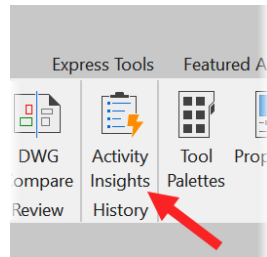

Figure 15.6: The Activity Insights icon on the History ribbon panel
3. Click on the **View** tab on the ribbon. Locate the **History** ribbon panel and click on **Activity Insights**, as shown in *Figure 15.6*.